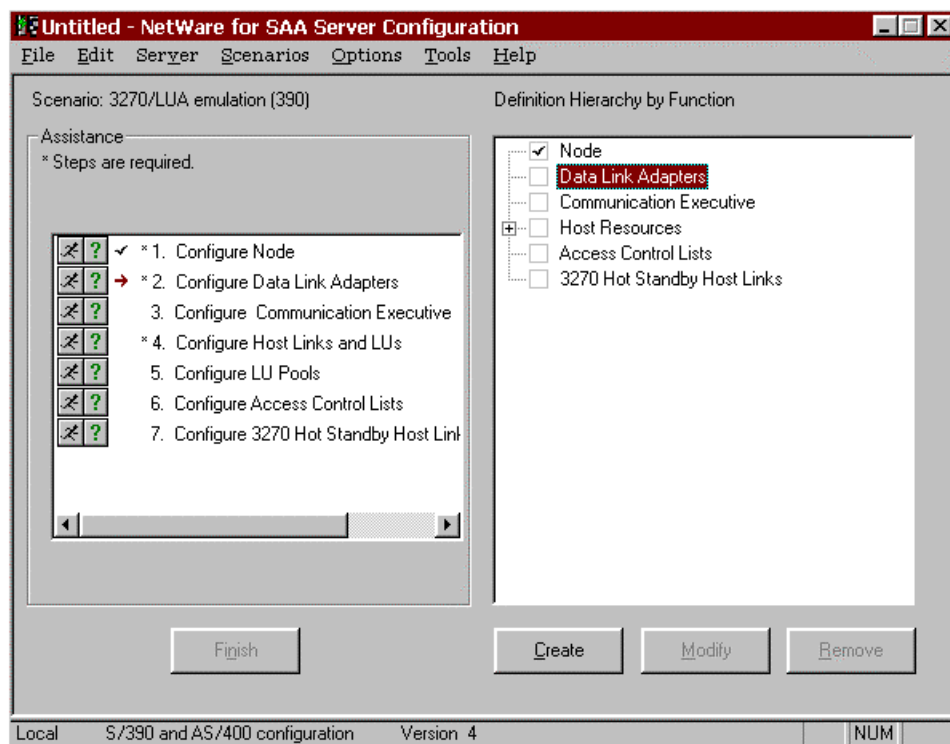

Figure 11-1. Version 4 Main Configuration Screen
1. From the main configuration screen, double click **Data Link Adapters** under Definition Hierarchy by Function. (Figure 11-1).